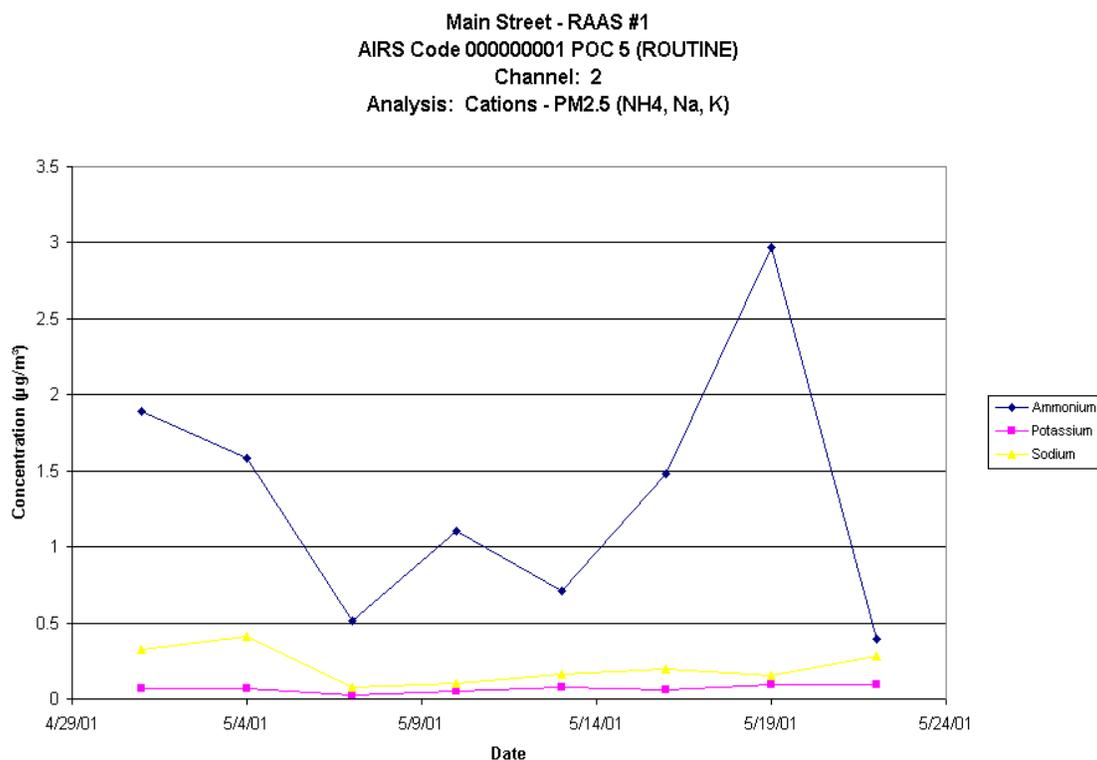
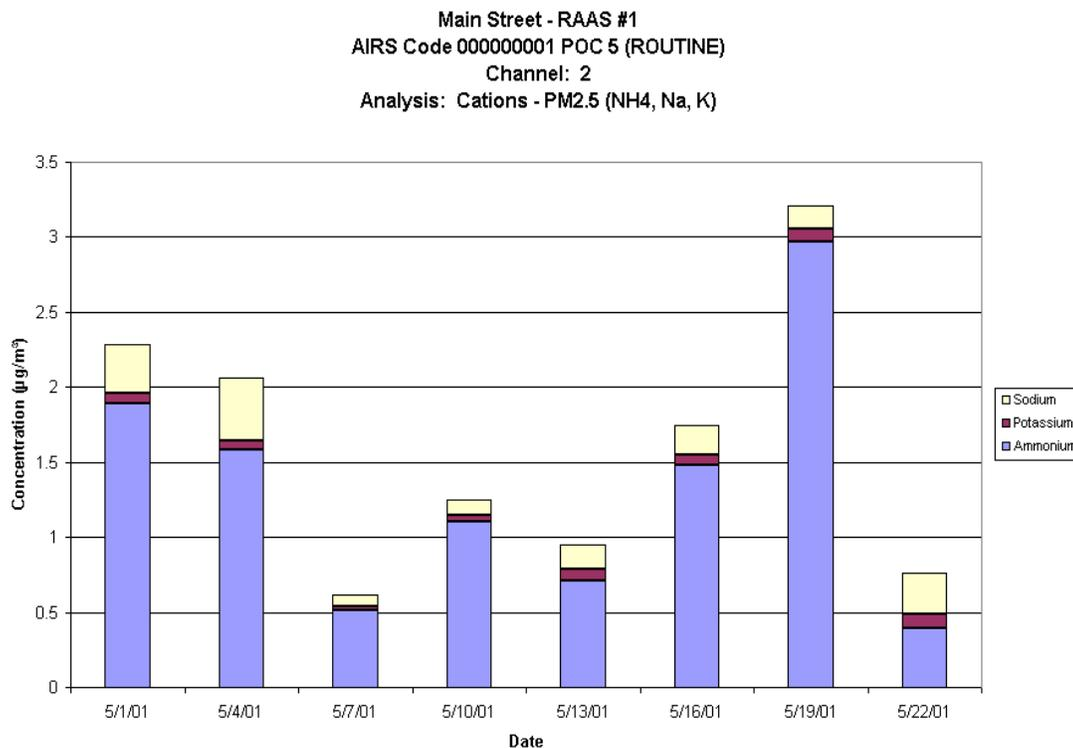

Figure 5-3. XY-line plot generated by the time-series analysis.
Figure 5-4. Stacked column plot generated by the time-series analysis.
- XY (Scatter) Plot (Figure 5-3). Data points are plotted on the x- and y-axes, showing relationships among the numeric values and a possible clustering of data. Data points are connected by lines.
- Stacked Column Plot (Figure 5-4). Data are plotted in columns, with each new series stacked on top of the previous. This shows the relationship of individual items to the whole.
Figure 5-3 shows an example of an xy-line plot, whereas, Figure 5-4 displays a stacked column plot.